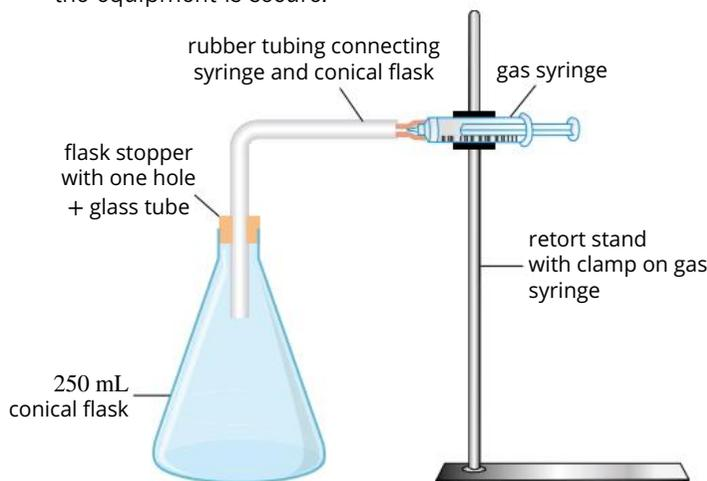

FIGURE 14.4.1 Experimental set-up
- 1 Clamp the stoppered gas syringe to its retort stand and connect the conical flask and syringe using the rubber tubing as shown in Figure 14.4.1. Check that the equipment is secure.